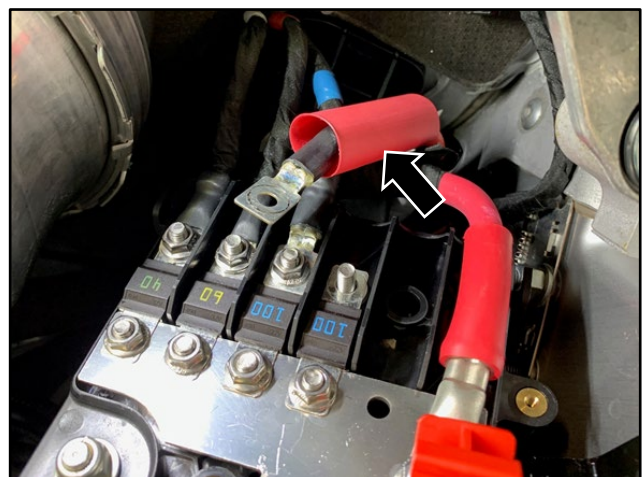

Figure 7
1. Install adhesive heat-shrink to cover and seal the damaged cable (refer to Figure 7).